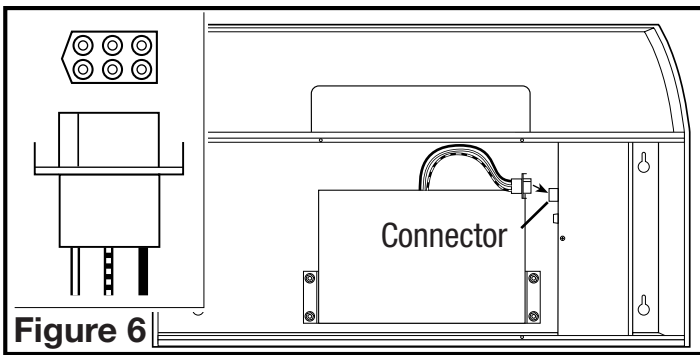

Figure 6
3. Plug the blower into the appropriate connector on the side of the wire compartment. It will only fit one way (**Figure 6**).